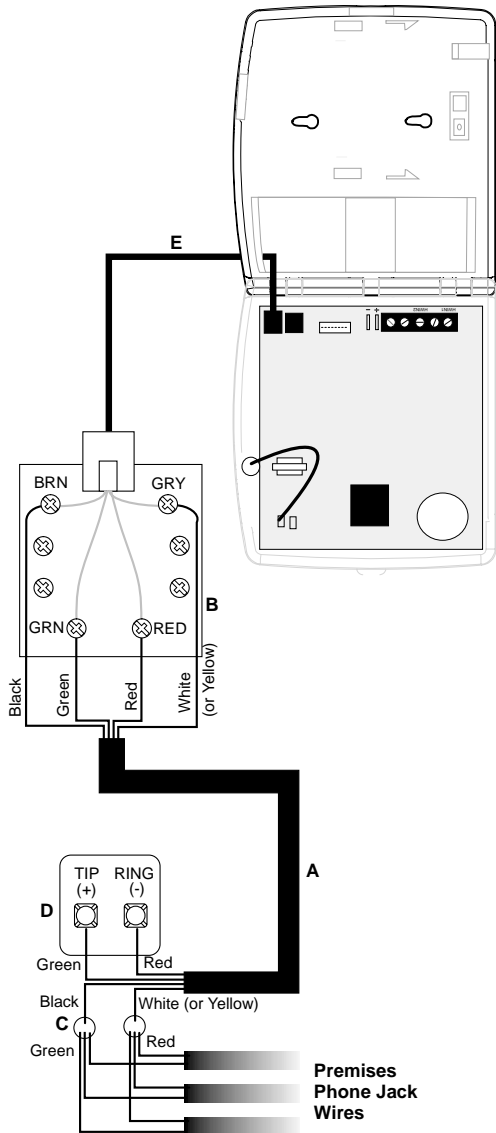

Figure 8. Full Line Seizure Wiring with an RJ-31X
1. Run a 4-conductor cable from the TELCO block to the RJ-31X (A in Figure 8).
2. Connect the 4-conductor cable wires to the RJ-31X (B in Figure 8).
3. Disconnect the Green and Red premises phone jack wires from the TELCO block and splice them to the 4-conductor cable Black and White (or Yellow) wires (C in Figure 8). Use weatherproof wire connectors for these splices.
4. Connect the 4-conductor cable Green and Red wires to the TELCO block TIP (+) and Red to RING (-) posts (D in Figure 8).
5. Connect the phone cord included with the panel to the RJ-31X and the panel LINE IN jack (E in Figure 8).